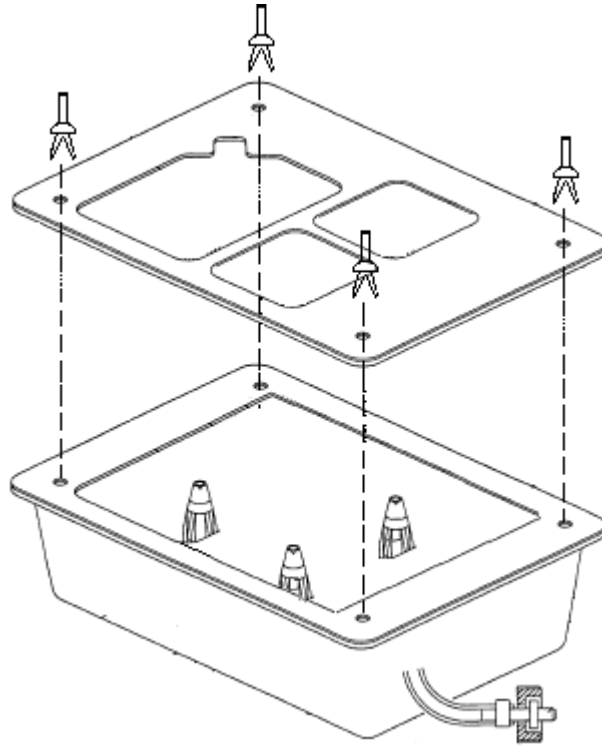

Figure 2
- [6] Take the new **DEVELOPER TEMPLATE ASSEMBLY** part # H 927 0906 and **RIVETS (x 4)** part # H 917 0041 and assemble the template as shown in figure 2.